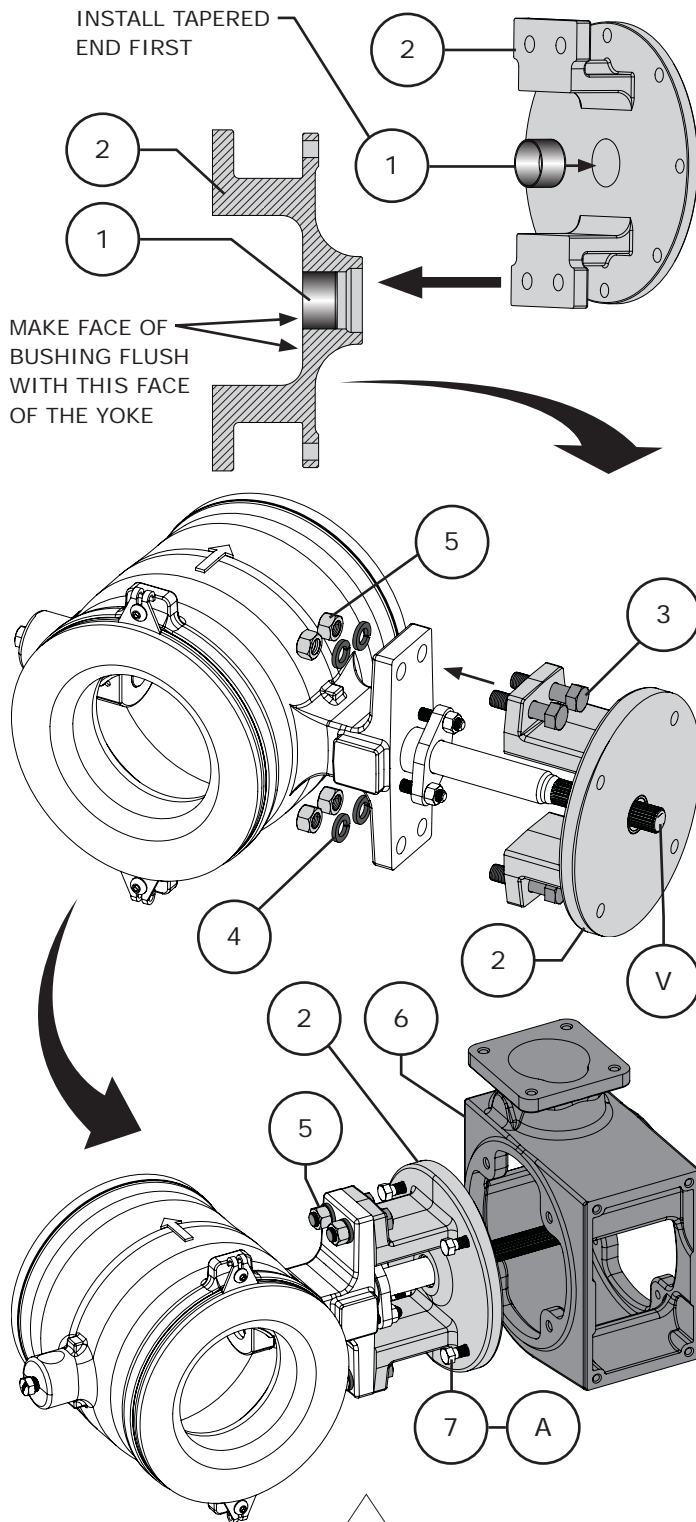

Figure 19 Yoke / Housing / Valve Assembly
- 1 If the bushing (Key 1) was removed from the yoke (Key 1), press in a new bushing. The end of the bushing should be flush with the outside face of the yoke (see Figure 19).